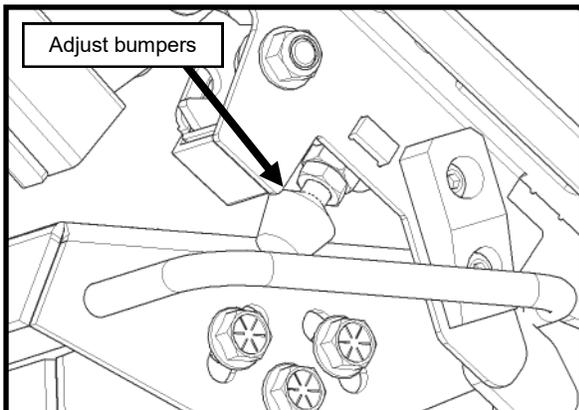

Fig. 5B (Adjust Bumpers)
5. Loosen the jam nut on each bumper (ref. figure 5B), then mount and latch the canopy per fig. 5A. With one hand, push upwards on the canopy to take up the play in the latches. With the other hand, unthread both bumpers down finger tight to the striker plate. Unlatch and pivot the canopy up to further unthread each bumper equally one full turn at a time. Re-latch and check latching resistance after each adjustment. The bumpers should stabilize the canopy and it should require downward force to latch, but not so much that double clicking the latches becomes difficult. Unlatch a final time and tighten the jam nut on each bumper.